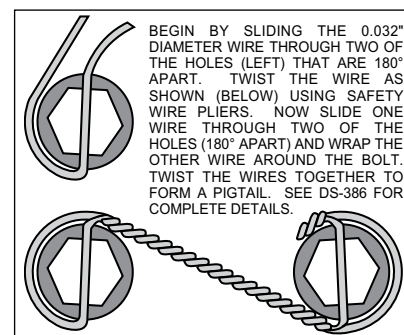

Figure 3. Safety Wire Diagram
- With the larger I.D. side of the rotor (4) facing away from the hat (5), bolt the rotor (4) to the hat (5) through the backside of the rotor using washers (6) and bolts (7). Apply red *Loctite*® 271 to the bolt threads and torque to 155 **in-lb** using a criss-cross pattern. For an added measure of security, the bolts may be safety wired using standard 0.032 inch diameter stainless steel safety wire as shown in Figure 3. Please refer to Wilwood's data sheet DS-386 (available at www.wilwood.com/Pdf/DataSheets/ds386.pdf) for complete safety wire installation instructions.
- Install one washer (8) over each pre-installed stud (9) on the radial mount bracket (1). Slide the caliper (10) in place over the studs and rotors and install the washer (12) and lock nut (11) to hold the caliper in place. The caliper bleed screws should be pointing up. Snug the lock nuts (11) and check that the rotor (4) is centered in the caliper (10). Add or subtract .03" shims (3) as necessary between the caliper mounting bracket (1) and the spindle to center the caliper (10).
- Remove the caliper center bridge pad retainer bolt, nut, and tube from the caliper. Slide the brake pads (13) into place. They should install easily without interference. Check that the outside radius of the brake pad is aligned with the outside diameter radius of the rotor face. Add or subtract shims (8) between the caliper and mount bracket to gain the proper alignment. Reinstall the center bridge pad retainer tube, bolt, and lock nut. The locknut should be snug without play in the bolt or tube. Be cautious not to over tighten.
- Once all clearances have been checked, remove the wheel, caliper, hat, and rotor from the spindle and hub. Secure the caliper mounting bracket (1) to the spindle using red *Loctite*® 271. Torque the bolts to 60 ft-lbs. Reinstall the hat and rotor assembly and again use several wheel bolts to hold it in place. Reinstall the caliper and torque the caliper nuts (11) to 30 ft-lbs.